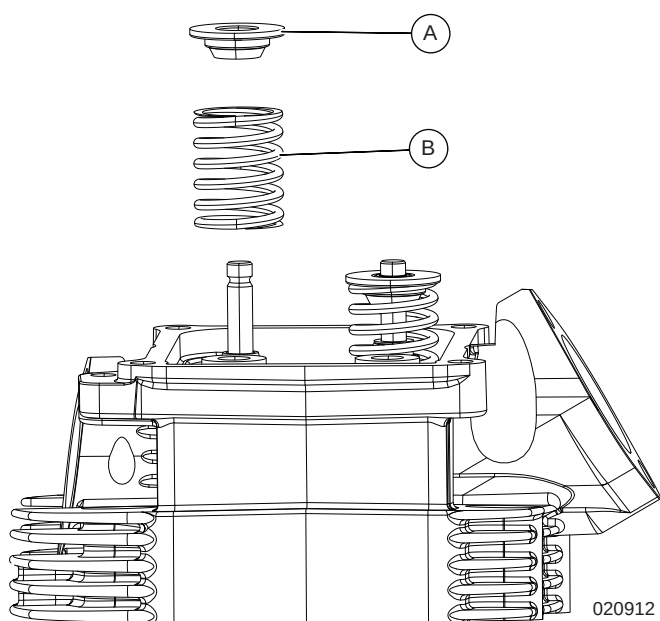

Figure 6-41. Remove Valve Spring
2. See Figure 6-41. Remove valve spring retainer (A) and valve spring (B).